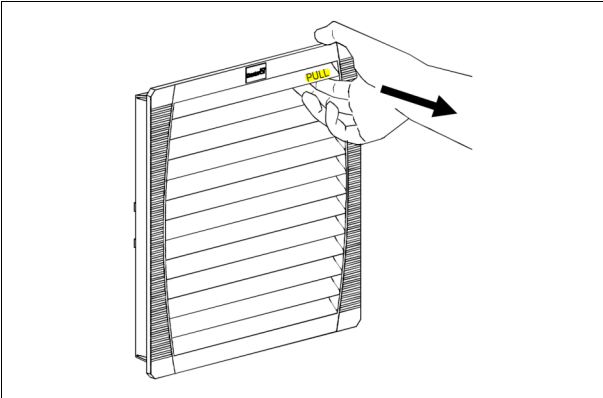

Fig. 22
- Open the louver grilles of the inlet filter (Fig. 22).